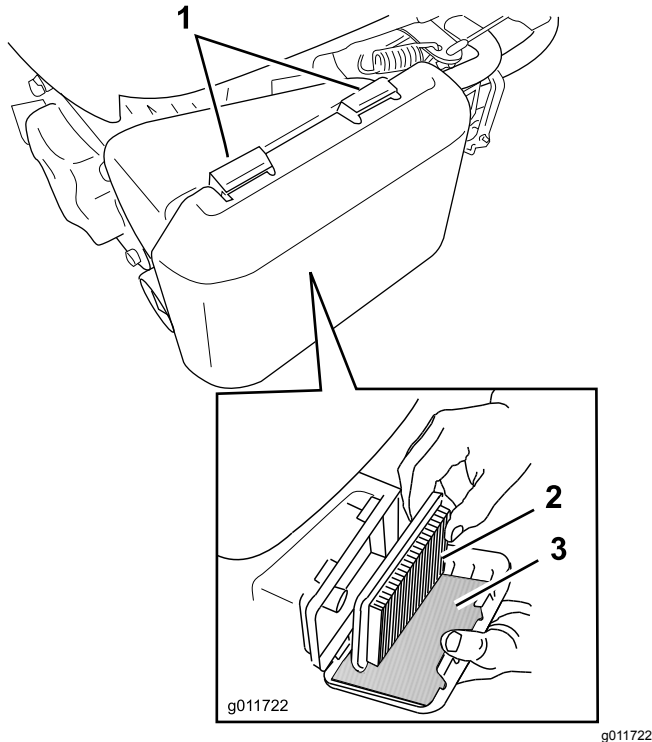

Figure 33
1. Press down on the latch tabs on top of the air-filter cover (Figure 33).
3. Remove the paper air filter and the foam pre-filter (Figure 33).